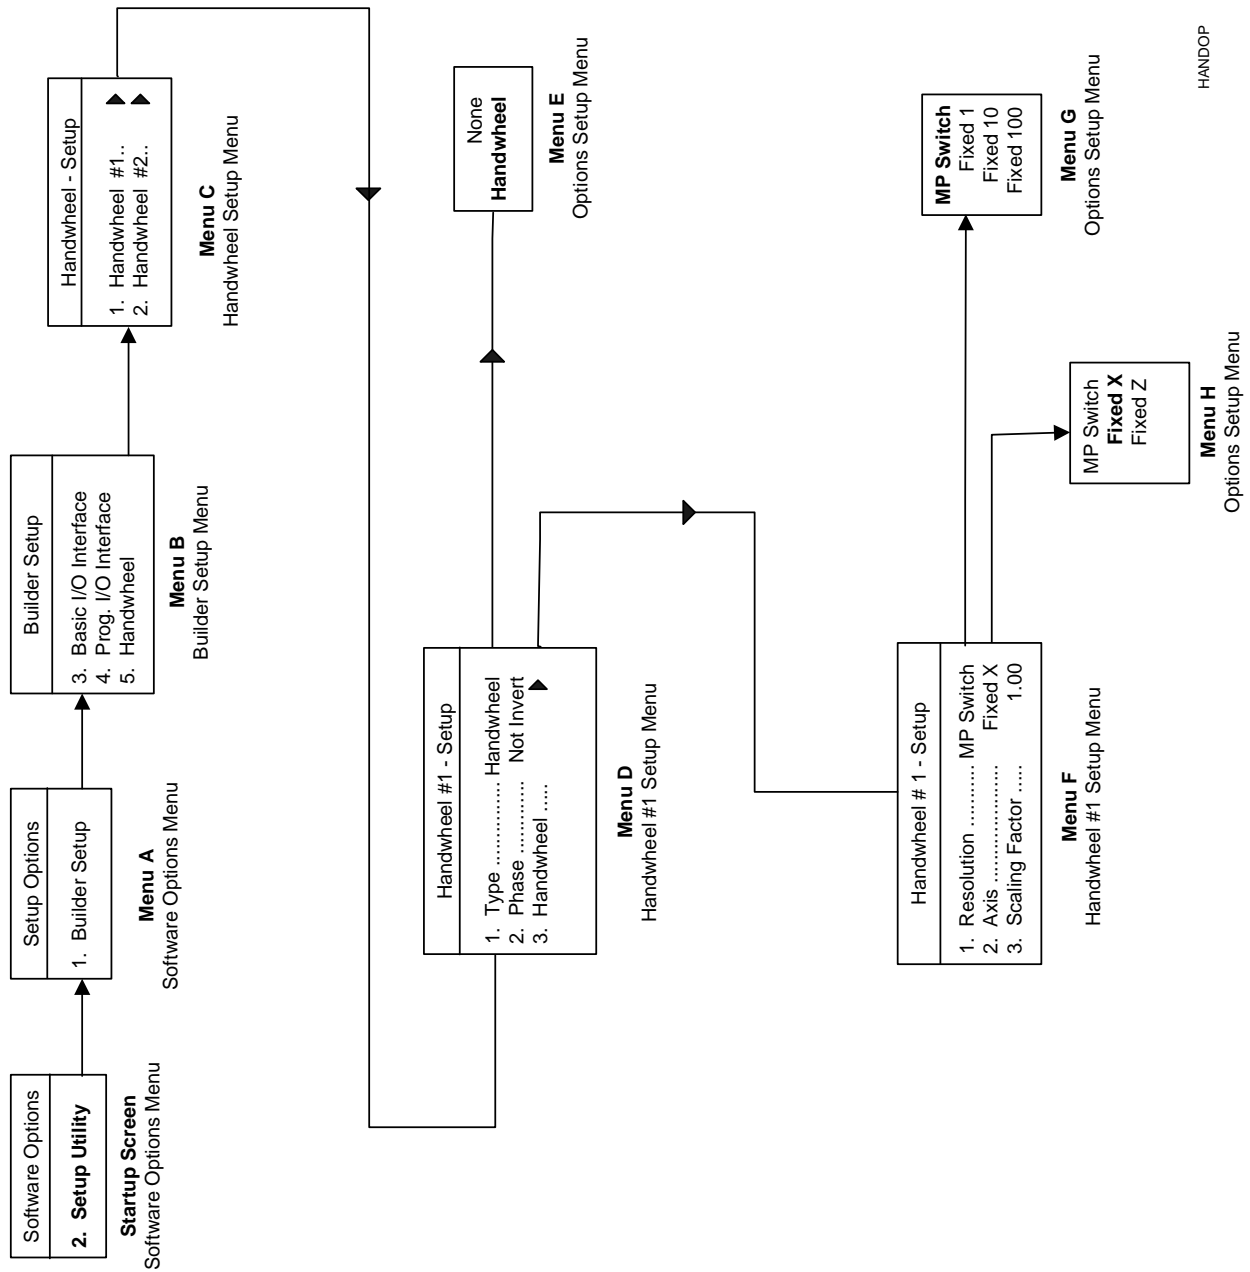

Figure 3-13, 4200T Handy Pulser Setup Menus
1. Refer to **Figure 3-13, 4200T Handy Pulser Setup Menus**. In Manual Mode or Power-Up Mode, press **EXIT (F10)** to display the **Software Options Menu**.